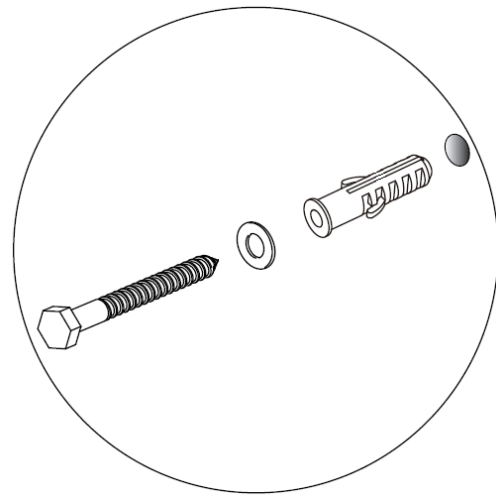

Fig. 4b
- Insert plastic anchors into the holes, then securely fasten the wall mount bracket with screws and washers on the wall. (see Fig. 4b)
- Connect the inlet hose (6) to the water supply.